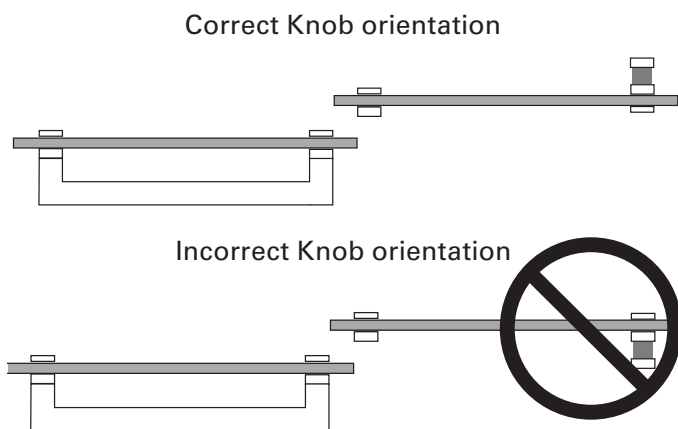

Figure 20
4. Attach the Knob with the other Washer to the Recessed Finger Pull by screwing "finger tight." Knob should face the inside of the shower (See **Figure 20**).
1. Gently slide the Inside Door Panel towards the wall with the shower head and ensure that the Knob is installed correctly (See **Figure 20**).